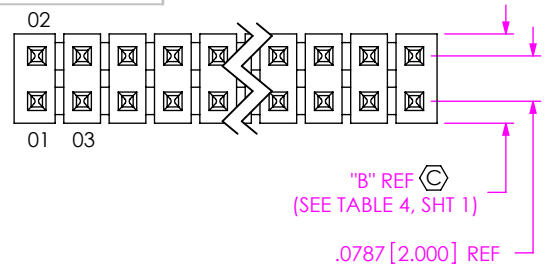

FIG 2
-D: DOUBLE (TMM-50-D, SEE FIG 2, SHT 2)